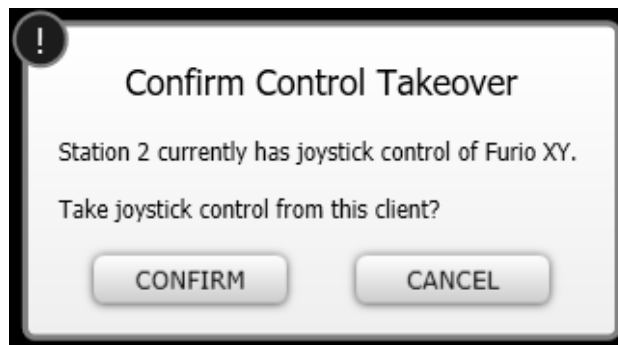

Figure 109 - Confirm Control Takeover dialog box
3. In the **Confirm Control Takeover** dialog box, tap **Operate** (Figure 109).